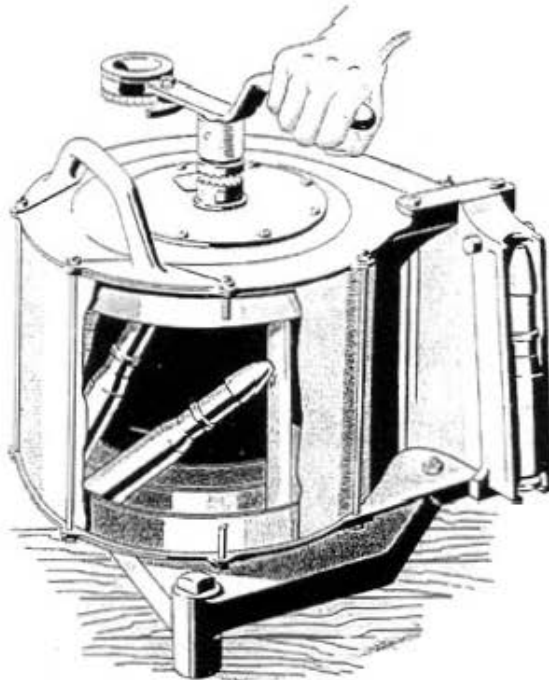

Figure 64—Magazine jammed requiring dismantling
3. There are eight screws that hold the cover plate (I), Figure 64, on the magazine. Remove six of these, leaving any two that are directly opposite each other, in place.